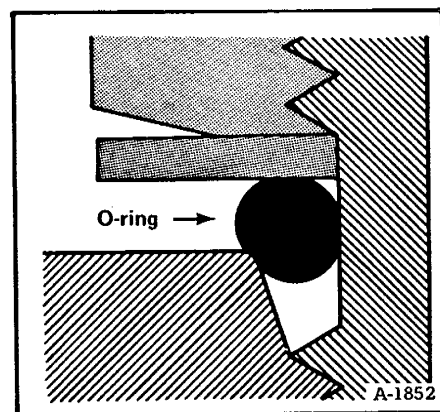
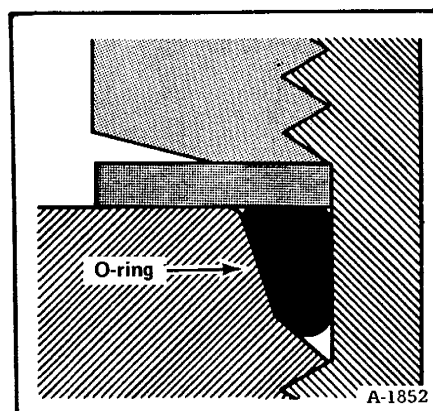

Fig. 2-4 Straight Thread Seal
Fig. 2-5 Seal In Place
- (1) Loosen the nut and slide the washer and O-ring against the thread (Fig. 2-4). Put oil on the O-ring.
- (2) Tighten the fitting in place, by hand. If the fitting is an elbow, turn it to line up with the tubeline or hose.
- (3) Hold the fitting with a wrench. Use another wrench to tighten the lock nut (Fig. 2-5). The ring will fit into the space as shown.